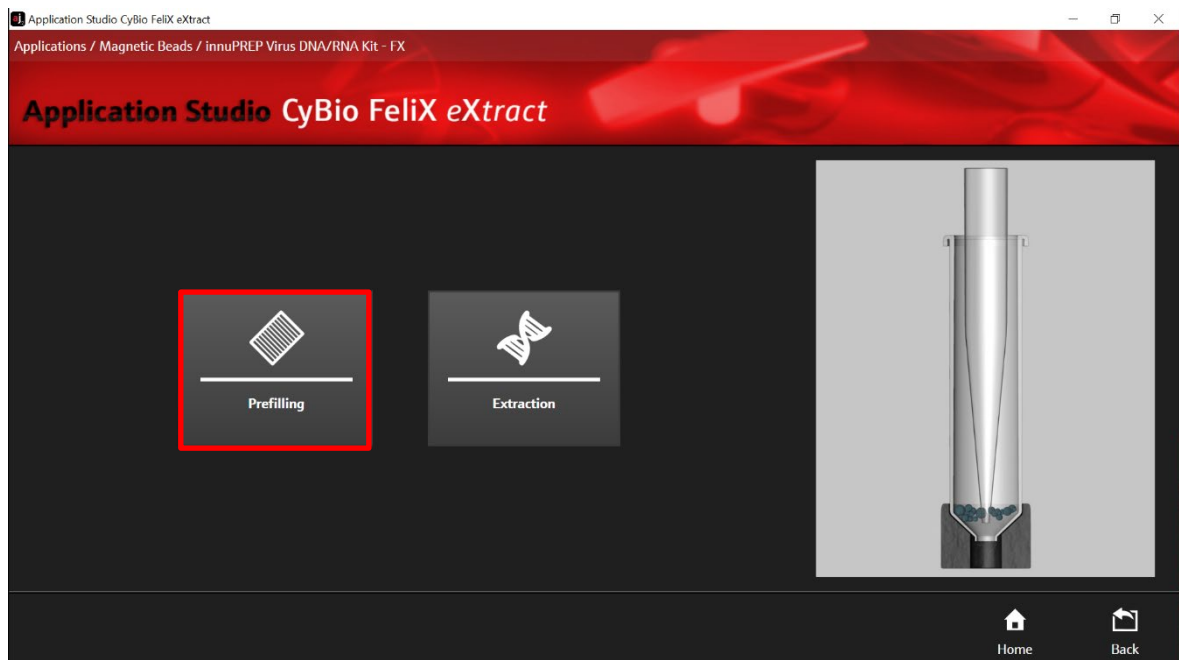

Figure 22: Routine selection in the AppStudio Felix eXtract: Prefilling.
16. Select “Prefilling” (→ see Figure 22).